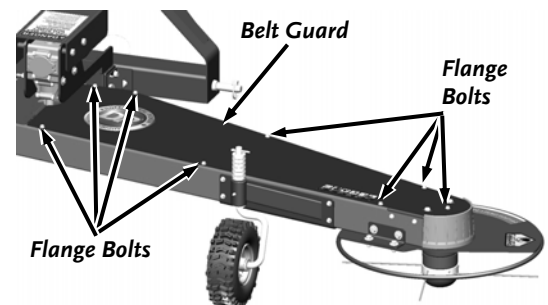

Figure 36
1. Remove the eight Flange Bolts from the Belt Guard using a 3/8" Wrench (**Figure 36**).